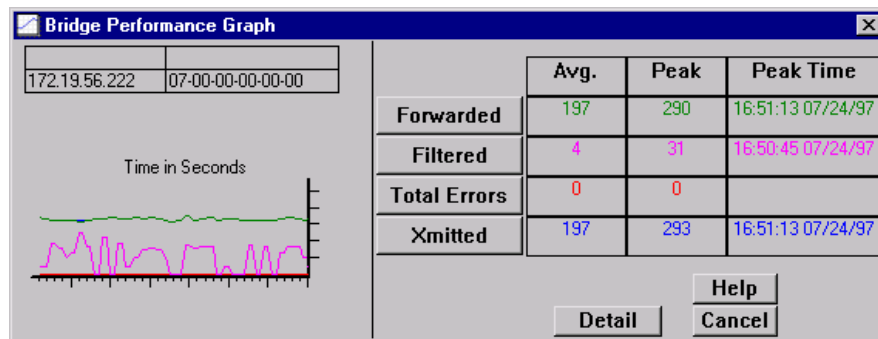

Figure 5-3. Bridge Performance Graph
2. Drag down to **Performance Graph...**, and release. The Bridge Performance Graph window, Figure 5-3, will appear. (The individual port Bridge Performance Graph windows are similar, except that they display a graph applicable to the selected interface.)